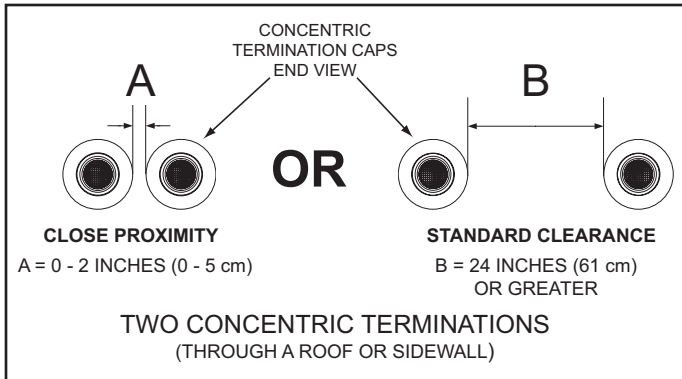
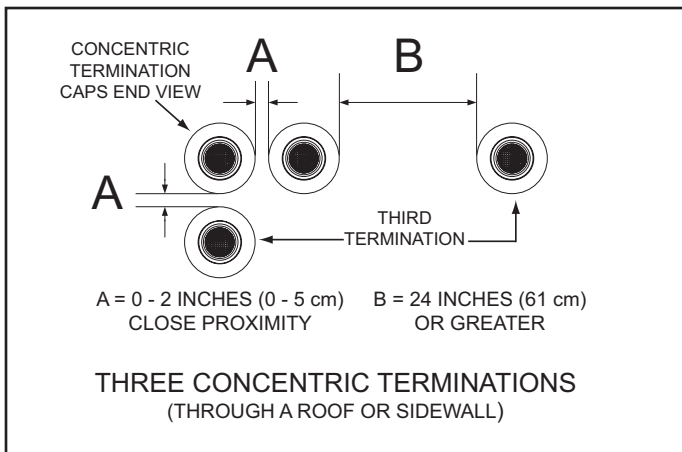
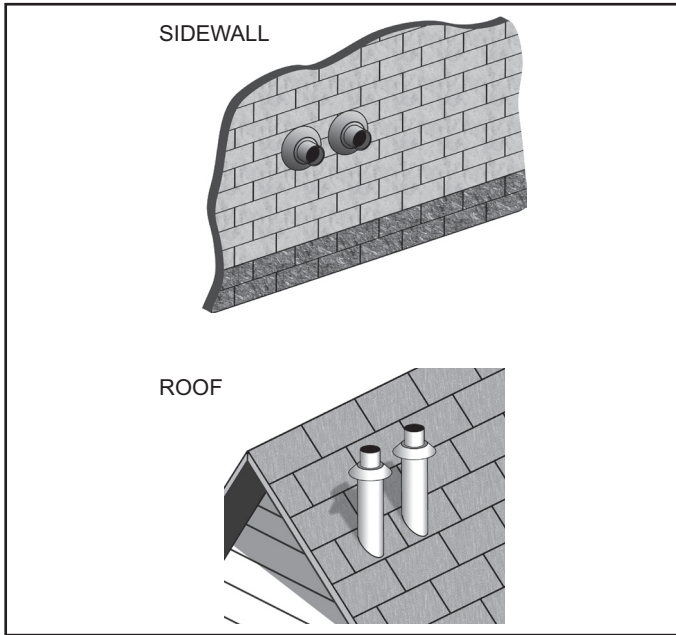

Figure 32
Figure 33
Figure 37
When installing multiple concentric terminations through a roof or through a sidewall the clearances shown in Figure 32 must be maintained.
1. The clearance between multiple termination caps must be 0 inches (touching) to a maximum of 2 inches (5 cm), dimension A - Figure 32, when installing concentric terminations in close proximity. See Figure 37 on page 30.
2. The clearance between multiple termination caps must be increased to a minimum of 24 inches (61 cm), dimension B - Figure 32, when installation in close proximity (above) is not possible. This is the standard clearance.
1. When installing three concentric terminations through a roof or through a sidewall the third termination may be installed in close proximity as indicated by dimension A in Figure 33.
2. If close proximity installation of the third termination is not possible the third termination may be installed as indicated by dimension B in Figure 33.
Two concentric terminations may be installed in close proximity as shown in Figure 37 or with standard clearances when this arrangement is not possible. See Figure 32 on page 31 for detailed information on clearances. See Figure 33 on page 31 when installing three concentric terminations.